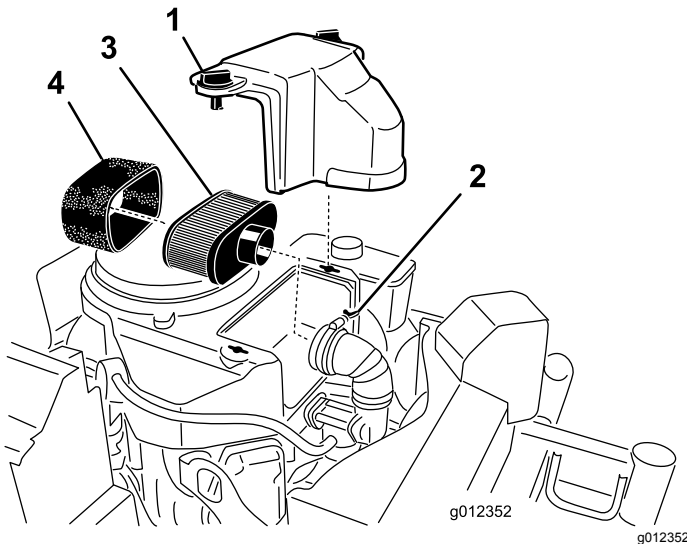

Figure 35
2. Clean around the air cleaner to prevent dirt from getting into the engine and causing damage (Figure 35).
3. Rotate the cover knobs 1/4 turn counterclockwise and remove the air-cleaner cover (Figure 35).
4. Rotate the thumbscrew of the hose clamp counterclockwise until you can separate the air-cleaner assembly from the inlet duct (Figure 35).
1. Carefully remove the foam element from the paper element (Figure 35).
2. Inspect the both elements for tears, an oily film, or damaged (Figure 35).
5. Assemble the foam element onto the paper element (Figure 35).
6. Install the air-cleaner elements onto the inlet duct of the engine (Figure 35).
7. Rotate the thumbscrew of the hose clamp clockwise (Figure 35).
2. Assemble the foam element onto the new paper element (Figure 35).
3. Install the air-cleaner elements onto the inlet duct of the engine (Figure 35).
4. Rotate the thumbscrew of the hose clamp clockwise (Figure 35).